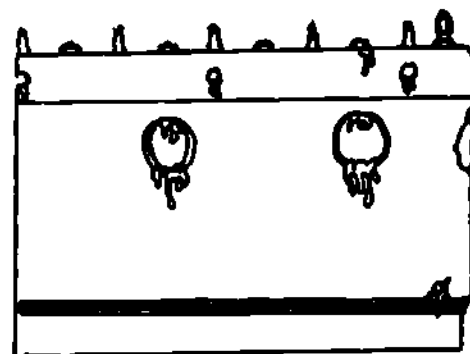

Fig 1-102. Engine blocks leaking at freeze plugs.
c. **Engine block.** Leaks can also develop at the engine block where the freeze plugs have been installed (fig 1-102).